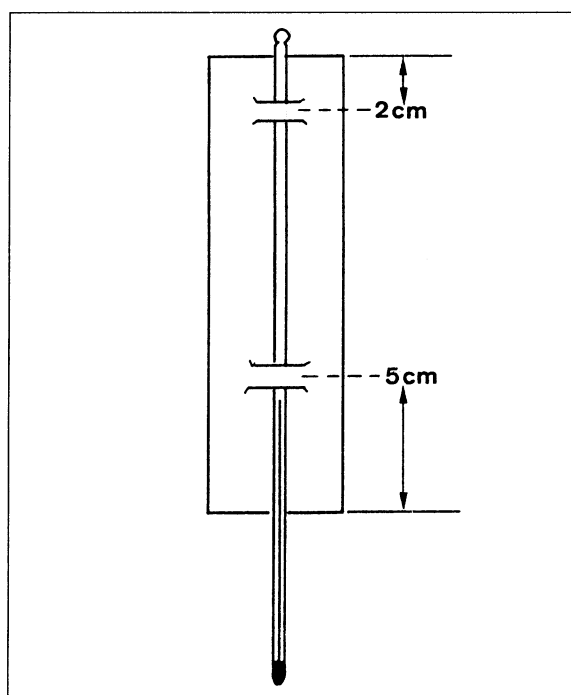

Fig. 1.1 Thermometer with a paper strip ready for graduation.
4. Push the cardboard down over the thermometer until the upper edge of the cardboard is parallel with the tip of the thermometer (fig. 1.1).